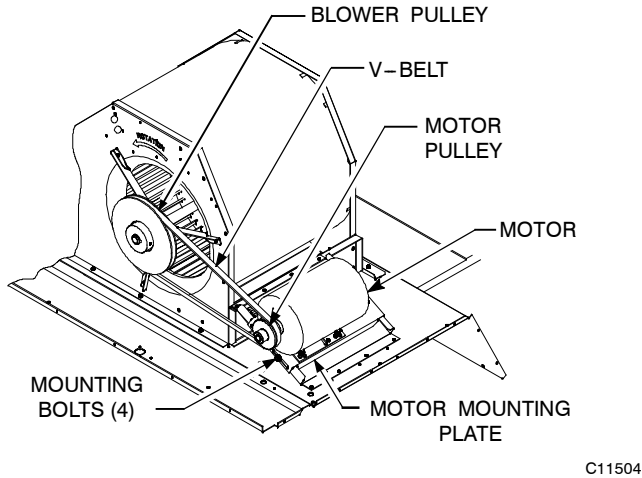

Fig. 8 - Typical Belt Drive Motor Mounting
blower housing. A fixed-pitch driven pulley is attached to the fan shaft and an adjustable-pitch driver pulley is on the motor. The pulleys are connected using a V-belt. (See Fig. 8.).
Use the following steps to replace the V-belt. See Fig. 8.
2. Loosen belt by loosening fan motor mounting nuts. (See Fig. 8.)